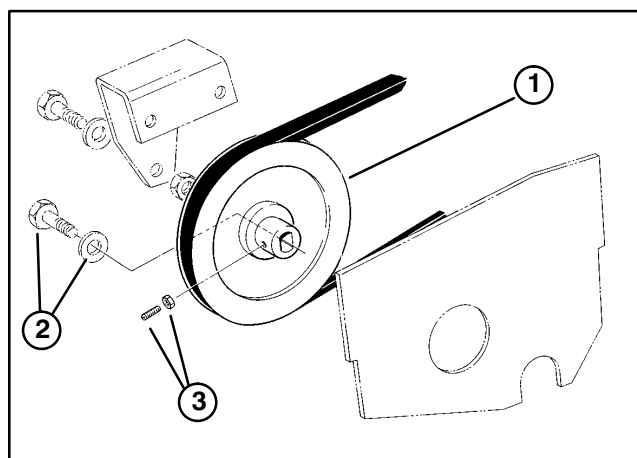

Figure 3
8. Install new cutting unit drive pulleys to reel shafts and secure with capscrews and washers previously removed (Fig. 3). Tighten socket head set screw and jam nut on each pulley.
9. Install new belts onto jackshaft pulleys and cutting unit drive pulleys (Fig. 3).